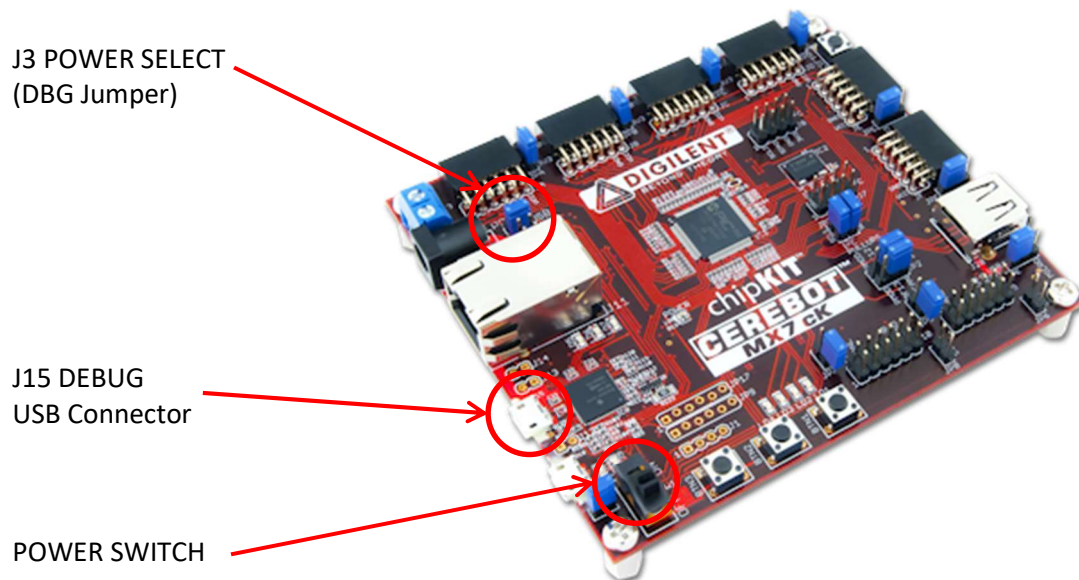

Fig. 1. Power selector and switch (from [1]).
2. On Jumper Block J3 (See Fig. 1), AKA Power Select, connect the jumper across the DBG (debug) position. This selects powering the MX7cK board using the computer’s USB port, which is connected to the board via the “J15 DEBUG” USB connector (Page 5 of 34 [1]).
3. Connect the MX7cK board to the computer by connecting one side of the USB cable to the computer and the other side to the “J15 DEBUG” USB connector on the MX7cK board. **NOTE: When connecting the USB cable to the MX7cK board, grasp and hold the USB connector of the board with one hand and then connect the cable to the USB connector. The USB connector on the board is glued on the board, and continued re-connection of the USB cable to the connector without adequate support may cause the connector to dislodge from the board.** Switch the board ON (Fig. 1).